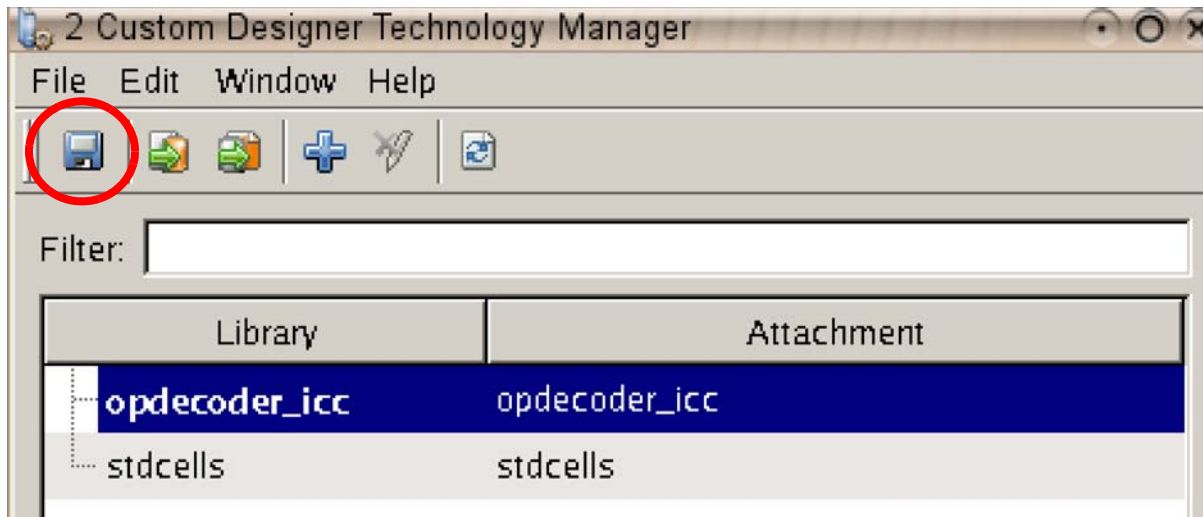

Figure 30 Save the Technology File
4. Save the IC Compiler library technology after import (shown in Figure 30).